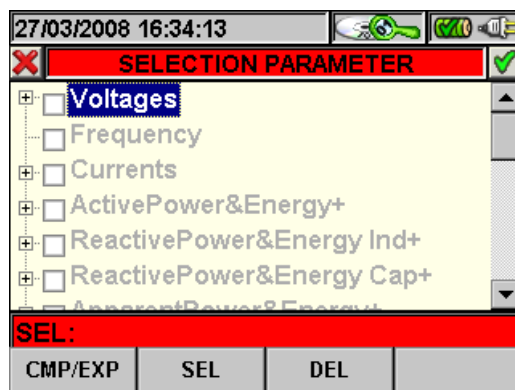

Fig. 99: Parameter selection
1. Press the **F1** key (or the **PARAM** item on the display) to access the page containing the recorded quantities available for the analysis (Fig. 99).
- **F1** key (or **PARAM** item on the display) to access the page of the selectable parameters (Fig. 99)